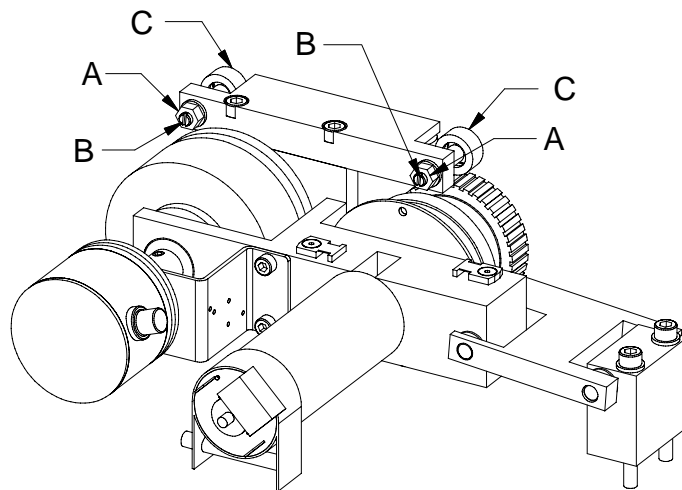

Fig. 4-116
1. To adjust the drive units loosen the nut (A).
2. Turn the eccentric bolts (B), see Fig. 4-116 .